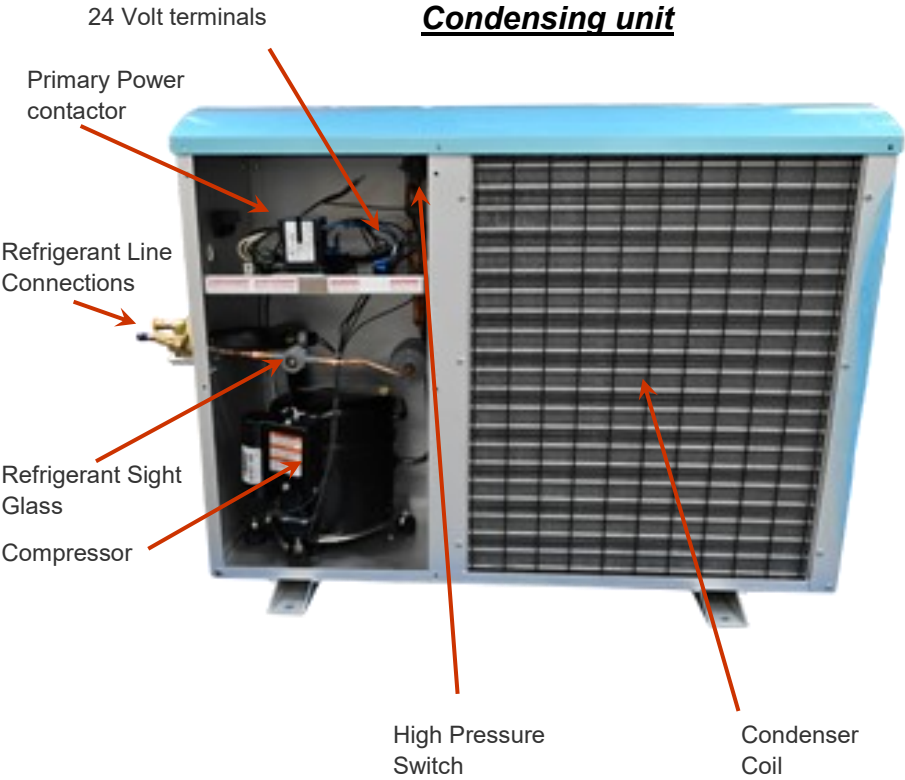

Fig. 1
1. Remove the comm cable from the zip lock bag and attach it to the side of the Wine Guardian unit (Fig. 1)